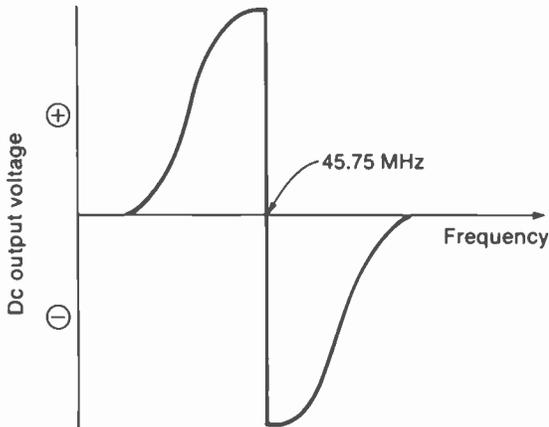

FIGURE 24-20 RESPONSE CURVE OF AFT DISCRIMINATOR. AMPLITUDE IS 8 V p-p.
**Response curve of AFT discriminator.** Two diodes in a balanced detector circuit produce the S response curve shown in Fig. 24-20. The slope is very steep to measure small changes in frequency. The output is zero at balance. For frequency deviations above or below 45.75 MHz, the net dc correction voltage is either positive or negative, depending on whether the frequency is too high or too low.
**AFT alignment.** The response curve should look like Fig. 24-20. The main effect on balance is provided by the secondary of the discriminator transformer. The response curve is obtained with an oscilloscope at the AFT test point and IF sweep signal input. The discriminator adjustments are shown in Fig. 24-21b.